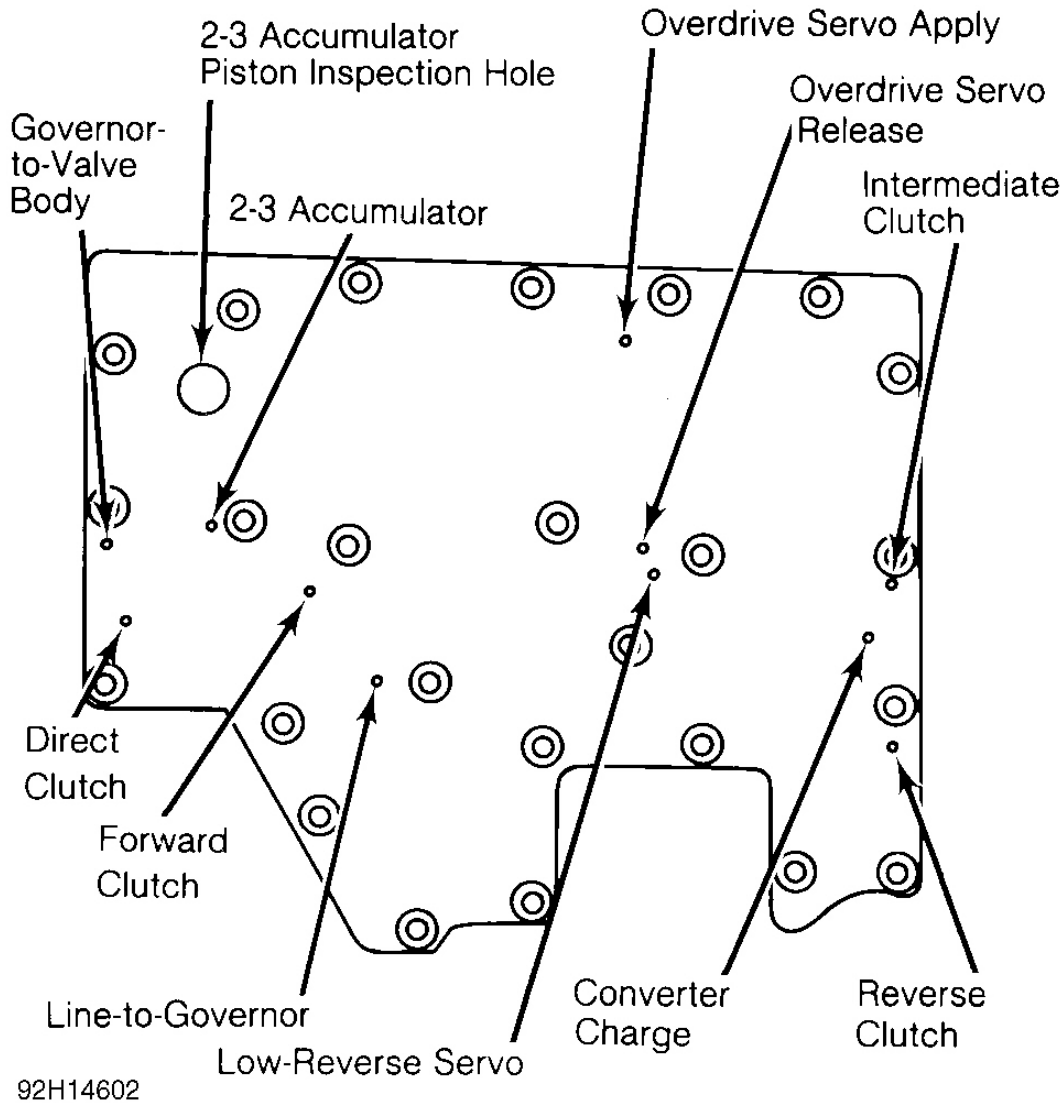

Fig. 23: Identifying Air Pressure Test Apply Ports on Adapter Plate
2. To make air pressure checks, drain transmission fluid. Remove oil pan and control valve body assembly. Install Adapter Plate (T82L-7006-A), with Adapter Plate Attaching Screws (T82P-7006-C) and control valve body gasket in place of control valve body. Tighten attaching screws 80-100 INCH lbs. (9-11 N.m). With a rubber-tipped air nozzle, apply air pressure in indicated locations. See **Fig. 23** .